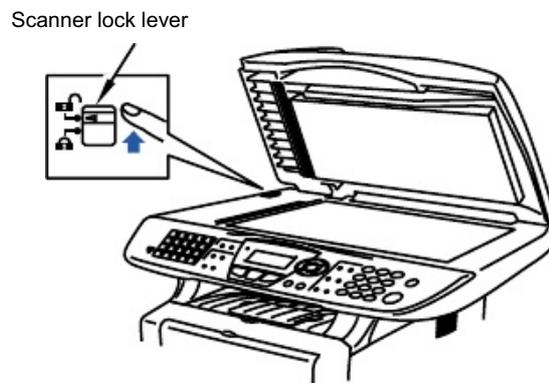

Fig. 2-11
(1) Push the lever up to unlock the scanner. (Refer to Fig.2-11.)